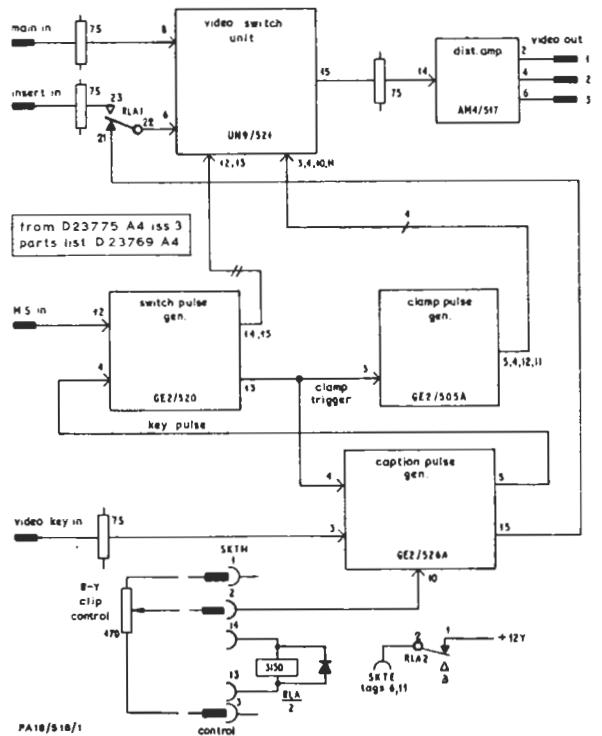

Fig. 1. Block Diagram of the Split-screen Switch Unit PA18/518
A block diagram is given in Fig. 1. The basic element of the PA18/518 is the fast-acting video switch in the UN9/521. This switch is fed with two clamped video signals which have nominally identical blanking-level potentials; it switches between them under control of signals developed in the GE2/520 Switch Pulse Generator. The insert signal is either a second standard video signal or caption signals from the GE2/526A.
8. Adjust the gain of the UN9/521 as follows. Connect a 1V p-p test signal to the Main input terminated with 75 ohms and, with the Key input disconnected, adjust R47 to give 2.5V p-p at the emitter of TR13. Adjust R31 to give 1V p-p across 75 ohms at one of the outputs. Feed the test signal to the Insert input, operate RLA (see Fig. 1) and RLA in the GE2/520; set R8 to give 1V p-p at the output.
9. To check for crosstalk, feed a 1V 625-line chrominance/luminance pulse and bar waveform to the Main input, terminated with 75 ohms. Terminate the Insert and Key inputs with 75 ohms and operate relay RLA (Fig. 1). With the oscilloscope connected to one of the outputs (terminated in 75 ohms) and RLA in the GE2/520 operated the bar crosstalk should not be visible, 1T and 2T pulse crosstalk (very distorted) should be less than 1.5 mV and chrominance crosstalk should be less than 2.5 mV p-p.